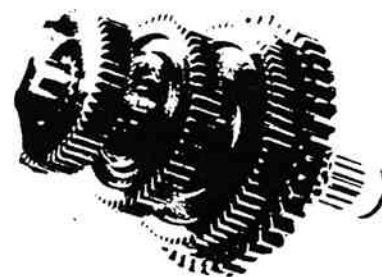

Figure 13-53. Removing 4th Speed Gear.
7. Pull 4th speed gear forward to remove the washer, spacer and gear from mainshaft (figure 13-53).